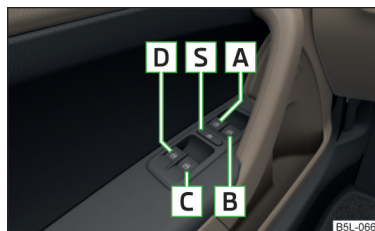

Fig. 21
- It is recommended to deactivate the electrically operated power windows in the rear doors (safety pushbutton) **[S]** » Fig. 21 on page 42 when children are being transported on the rear seats.
Buttons for the electrical power windows » Fig. 21.
The buttons for power windows in the rear doors can be deactivated by pressing the safety pushbutton **[S]** » Fig. 21. The buttons for the electrical power windows in the rear doors are activated again by pressing the safety pushbutton **[S]** again. ▶
- Hold button  in the opening position » Fig. 21 on page 42.
- Hold Button  in the closing position » Fig. 21 on page 42.